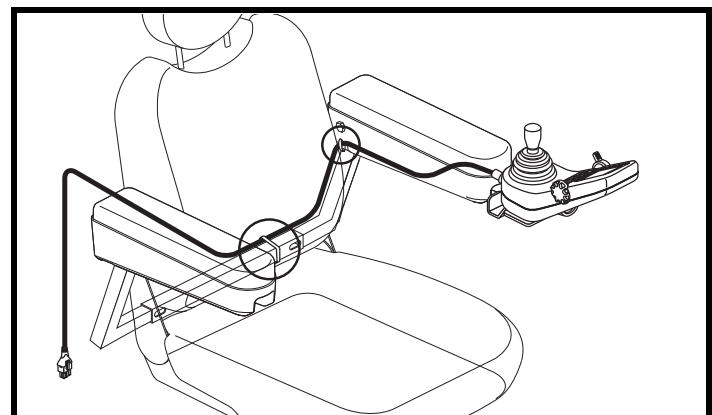

Figure 13. Controller Harness Routing on a Contour Seat
10. Secure the controller harness to the armrest receiver with one or more wire ties. See figure 13.